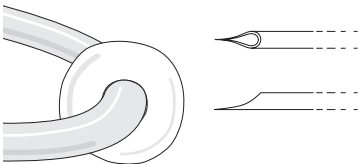

Fig. 25—Pipette has a sharp tip
5. The resulting tip (Fig. 25) has a very sharp point for clean cell penetration.